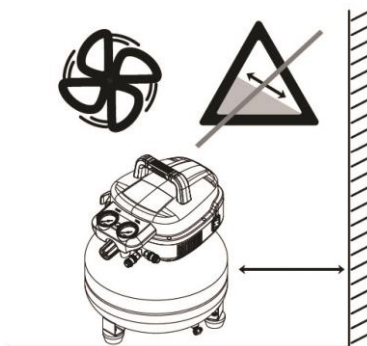

Figure 1
3. Position the air compressor (Figure 1).